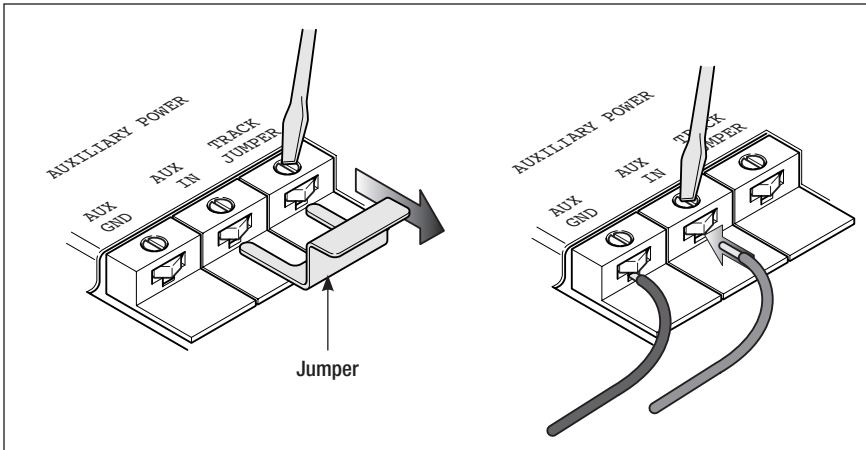

Figure 8. Power supply connections
You may choose to connect the switch to a separate power supply to operate the switch when track power is off or set to a low voltage. This is most beneficial to those operating in the conventional environment. The switch operates best at 5-18 volts (AC). Follow these steps and refer to Figure 8 to make the proper connections.